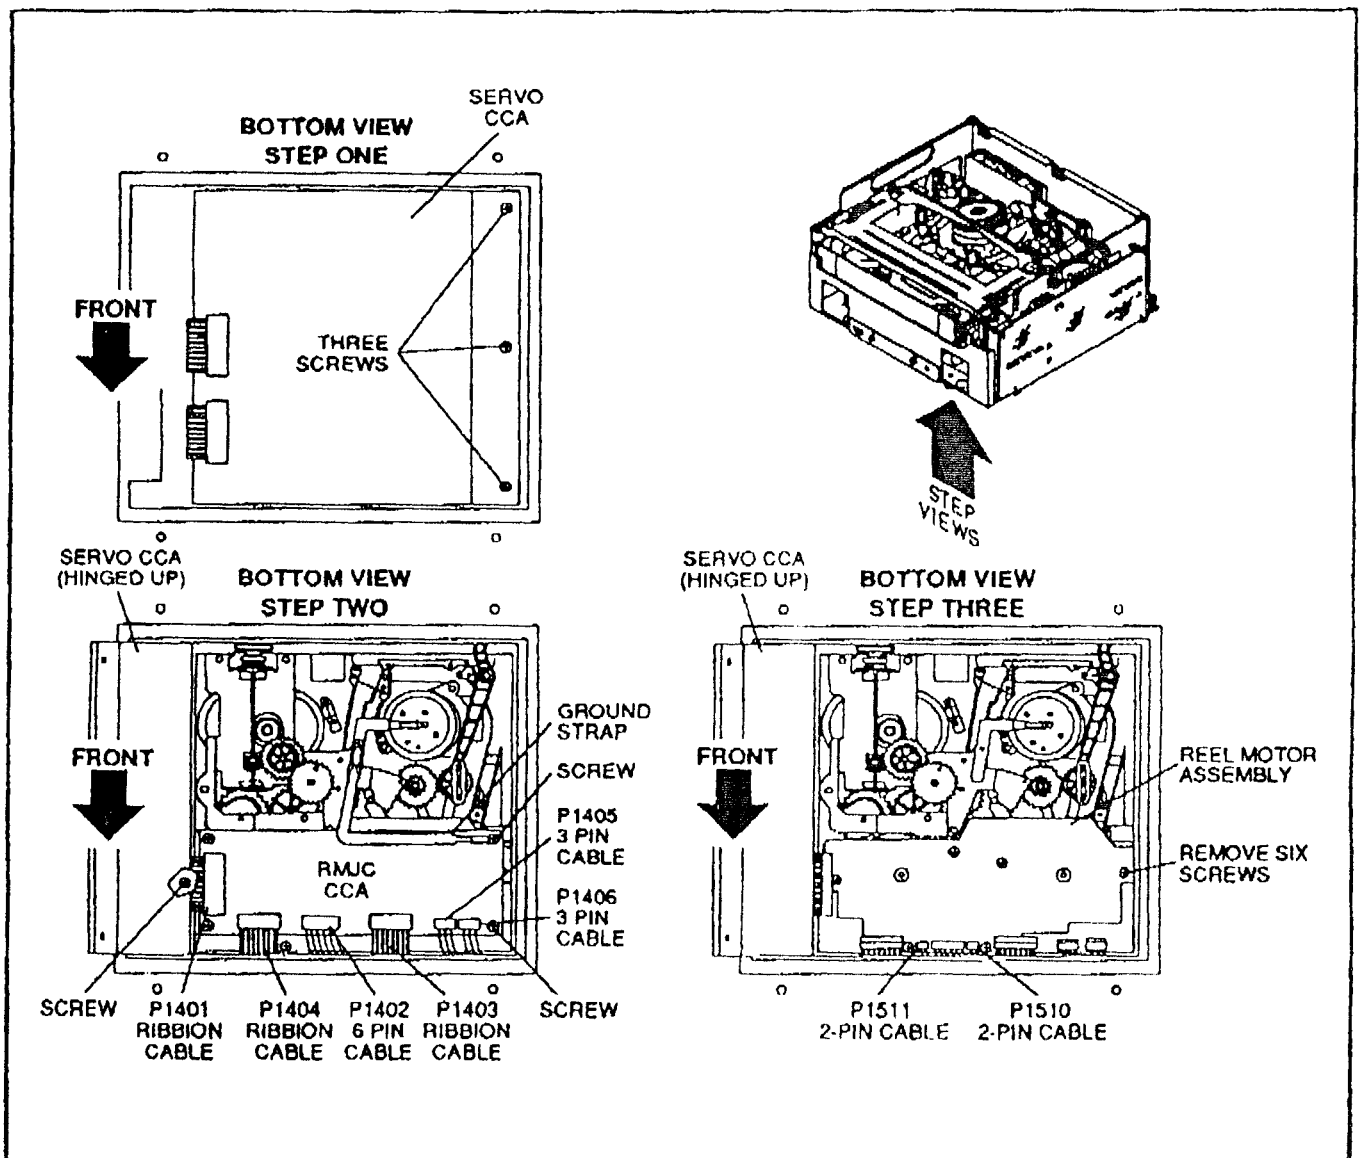

Figure 2. Lubrication Access
12. Remove three screws (Figure 2, step 1) and carefully lift Servo Circuit Card (hinged).